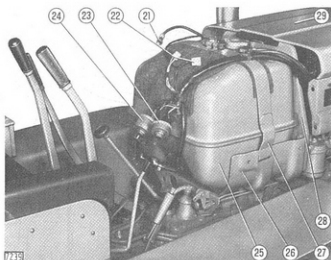

Fig. 98 - View of the Tractor with the Rear End Panelling, Firewall and Dashboard removed
- Fuel tank (25, Fig. 98) with associated lines and fasteners.
- Fuel tank mounting (26) complete with front firewall (28), disconnecting alternator warning relay, voltage regulator and fuse box.